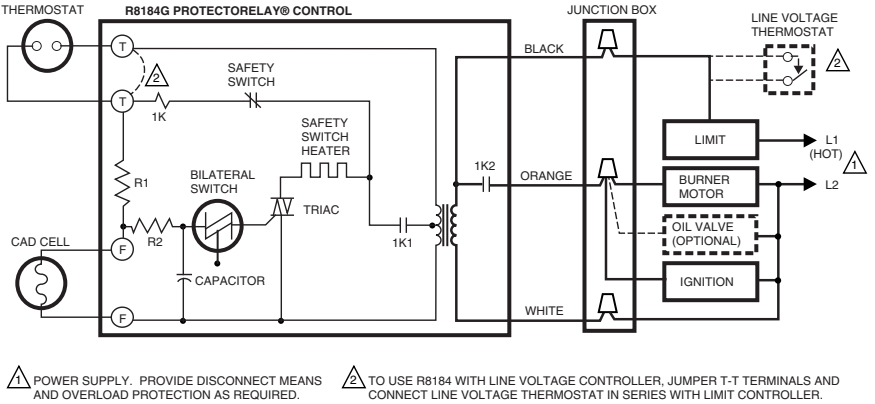

Fig. 4. Typical hookup for R8184G.
- R8184G—connect the cad cell leads to the F-F terminals and thermostat leads to the T-T terminals. See Fig. 4 and 5.